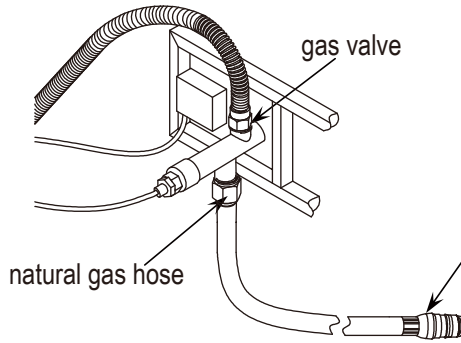
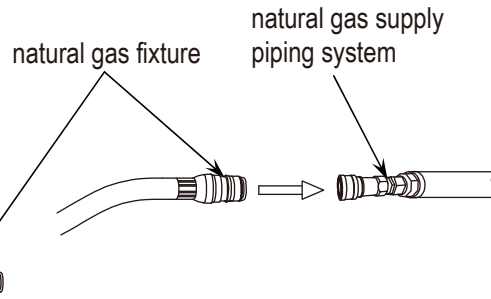

Figure 14
Figure 15
4. Connect the natural gas hose with the gas valve by screwing clockwise tightly (see Figure 14). Plug the natural gas fixture into the natural gas supply piping system (see Figure 15).